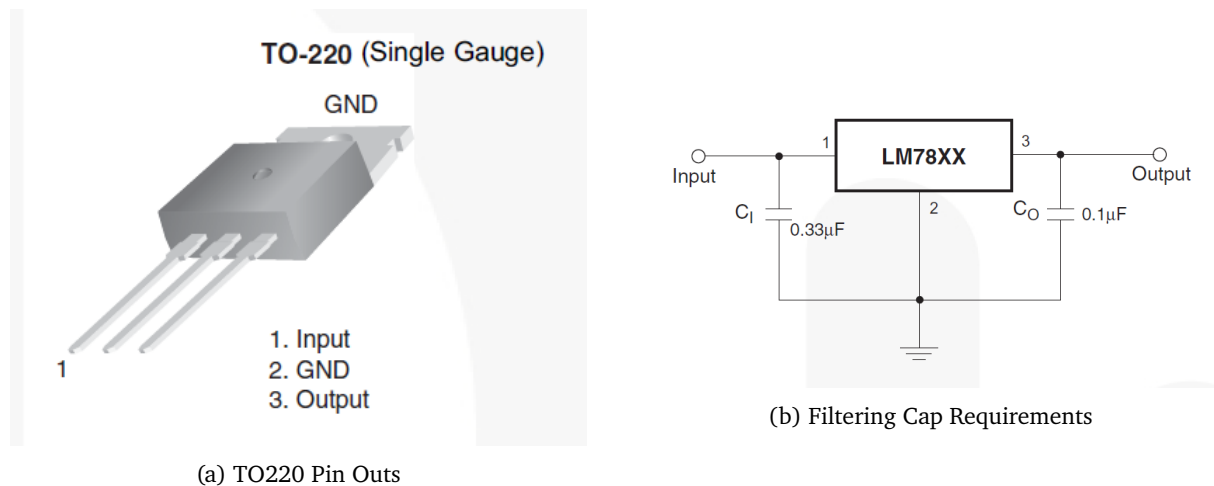

Figure 4: Physical Device and Schematic for LM7805
reverse polarity on the input and ground, no current will flow (reverse polarity protection). See Fig. 4 for the pinouts for the TO-220 package of the 7805 regulator.
- Images in Fig. 4 courtesy of Fairchild LM7805 Datasheet.